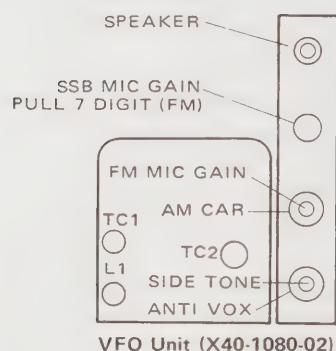

Fig. 24
* See Fig. 24
- (1) Connect frequency counter to TP-2 of Het Unit.
- (2) Turn VFO dial one turn of small tuning knob from fully clockwise. Adjust the dial attaching screw so that the pointer indicates "1000", the Freq. counter shall read 9,20000 MHZ.
- (3) Verify the tracking of VFO per Table 7.